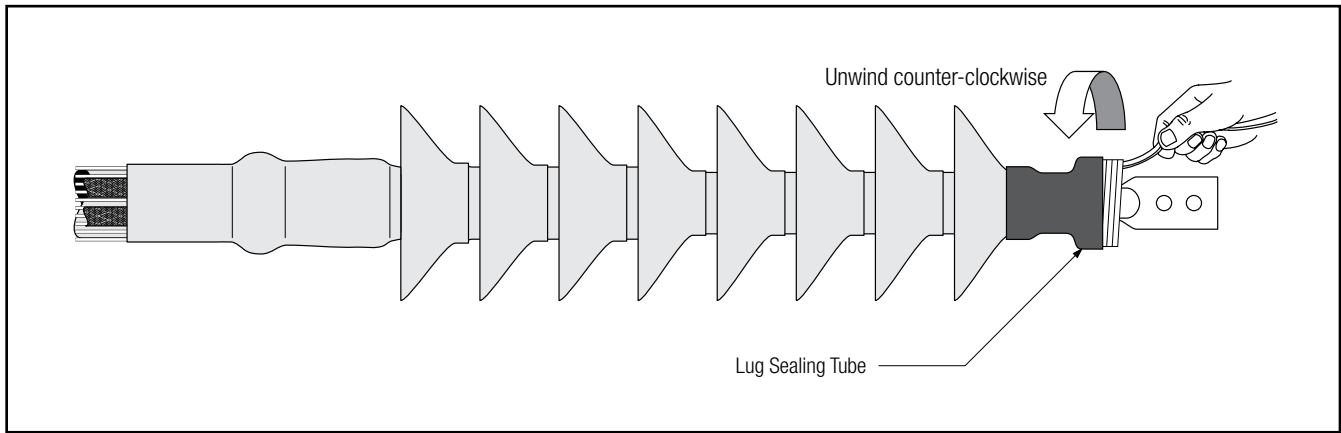
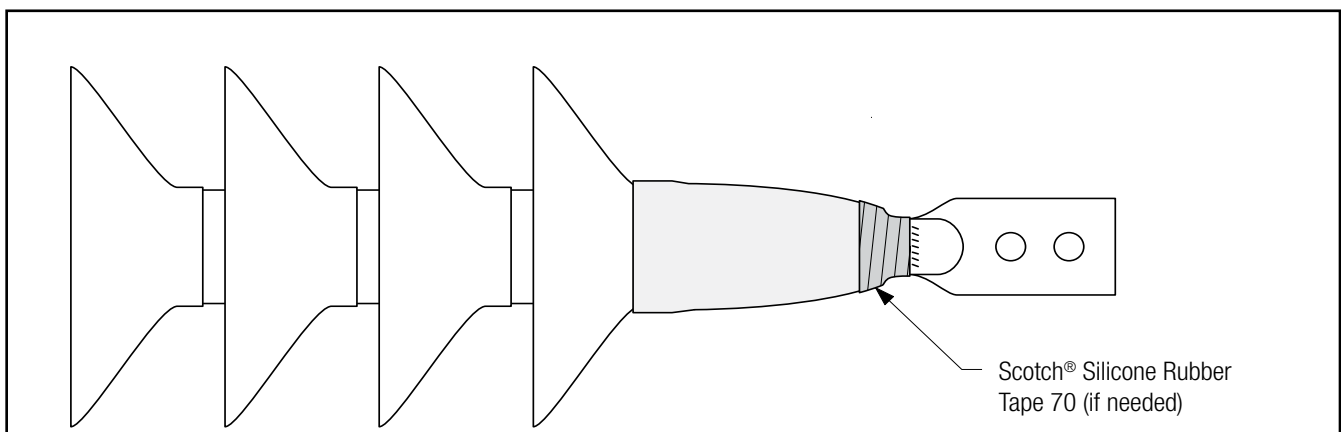

Figure 30
Figure 32
- 8.2 Slide the cold shrink silicone rubber lug seal insulator assembly tube onto the lug, or connector, and termination, as shown in Figure 30. Start to shrink the tube near the top of the last skirt and onto the lug or connector barrel. If the tube overlaps the lug pad, or is not tight to the lug barrel, carefully trim the tube just past (1/4" (6 mm)) the Scotch® Rubber Mastic Sealing Tape 2228. A roll of Scotch® Silicone Rubber Tape 70 is provided to cover the edge of the trimmed tube (See paragraph 8.4 and Figure 32.) Apply with moderate tension, stretching only enough to conform to the lug barrel and tube.
- 8.4 Figure 32 illustrates the appearance following installation of Scotch™ Silicone Rubber Tape 70 (if needed) partially over the the Cold Shrink Silicone Rubber Lug Seal Insulator Assembly tube and the lug barrel.